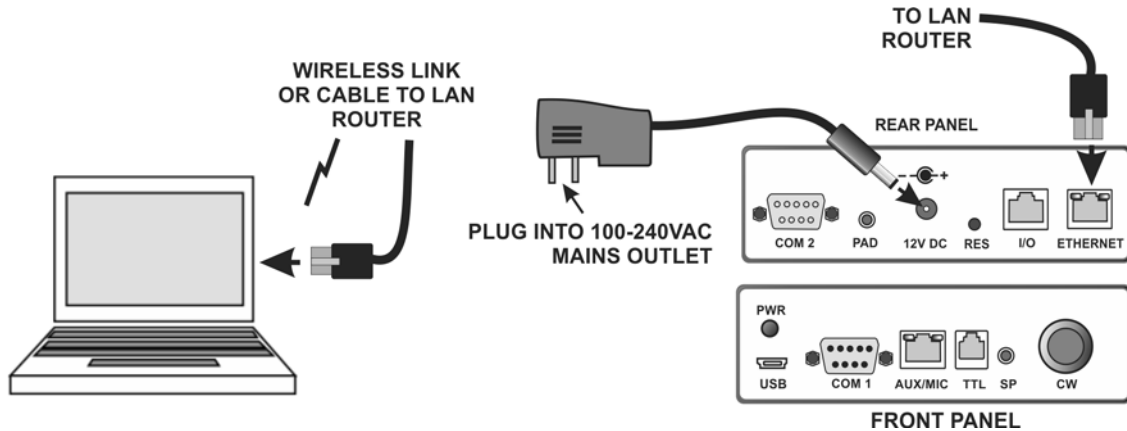

Figure 8
- Disconnect the USB cable between and connect both the RRC-1258 control site unit with the CW knob and the computer to your LAN (Figure 8). Note that the PWR light on the RRC-1258 unit's front panel stops blinking and remains on, indicating communications with the router. If it continues to blink, check to ensure the cable connectors are fully inserted and that you have a good cable. You must have a steady green PWR light to proceed.